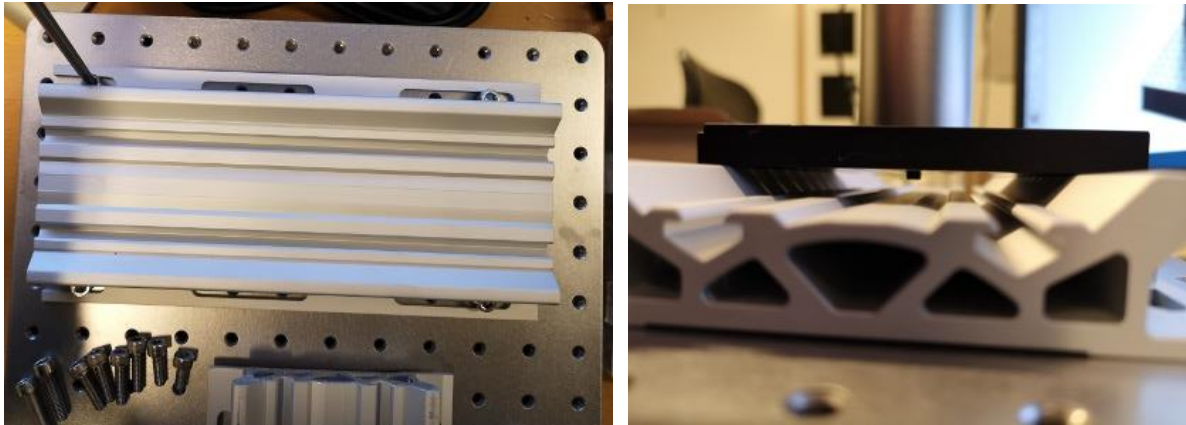

Figure 22: Mount of (A) construction rail to the breadboard; (B) rail carriage and mounting post on top of each previous components.
Step1. Fix the construction rail (item 56) to the breadboard (item 54) with four M6x12 mm cap screws (see Fig.22-A) and add the rail carriage on top (see Fig.22-B).